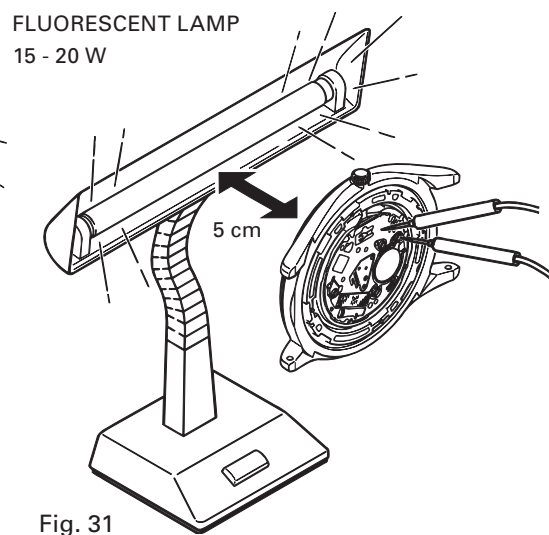

Fig. 31
- 3) Measure the voltage again while keeping the watch exposed to the light (Fig. 31).